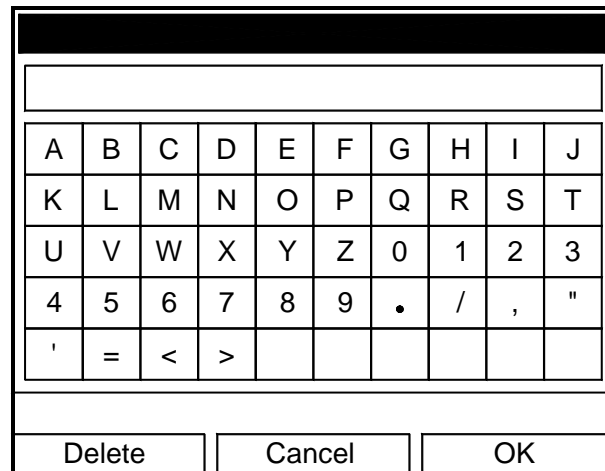

Figure 1-30: Text Creation Window
- a. Press [ENTER] to open the text creation window, which appears similar to Figure 1-30 below.